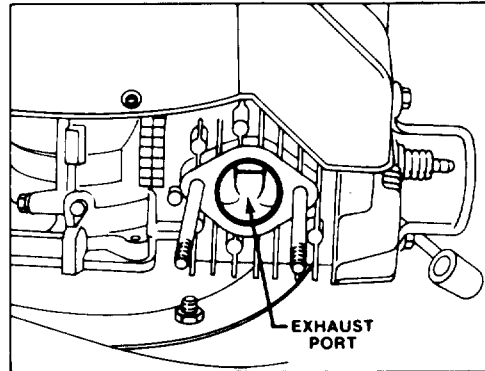

Figure 17
3. Pull wire off spark plug. Slowly pull recoil starter so piston covers exhaust port (Fig. 17).
4. Clean carbon from exhaust port (Fig. 17) with flat, hard wood scraper.